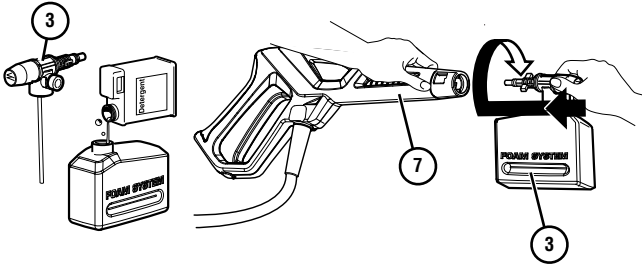

Fig. C-1
3. Rotate the head to adjust the width of the fan (Fig. C-1).